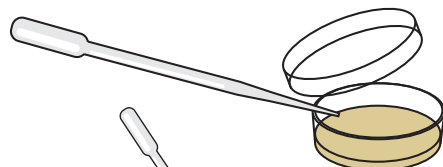

Figure 5
2. Transfer 3.5 ml S-buffer to the Petri dish with a large transfer pipet (Figure 5).